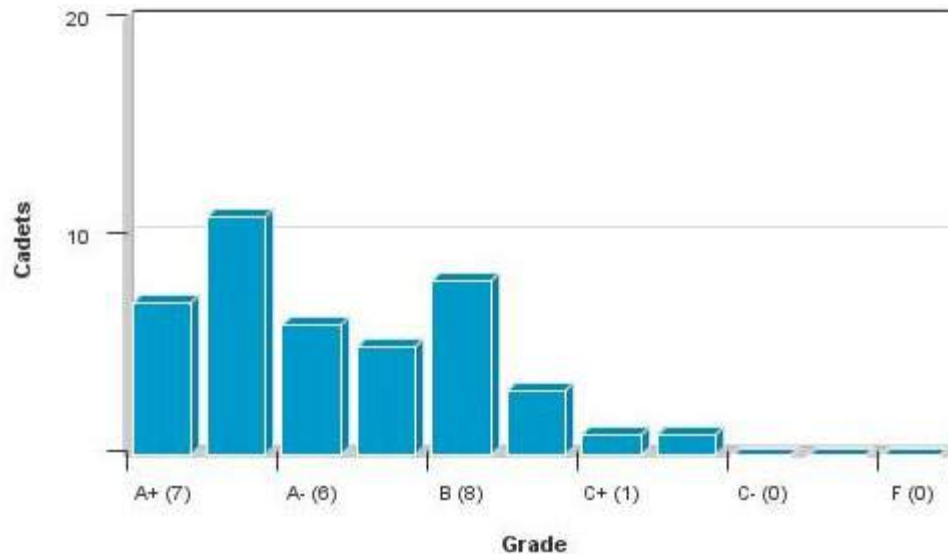

Figure 1. AT23-2 EM481 WPR1 Histogram of Grades
4. **WPR Additional Statistics.** Additional descriptive statistics and the histogram of grades for WPR 2 are depicted in Table 3 and Figure 1, respectively.